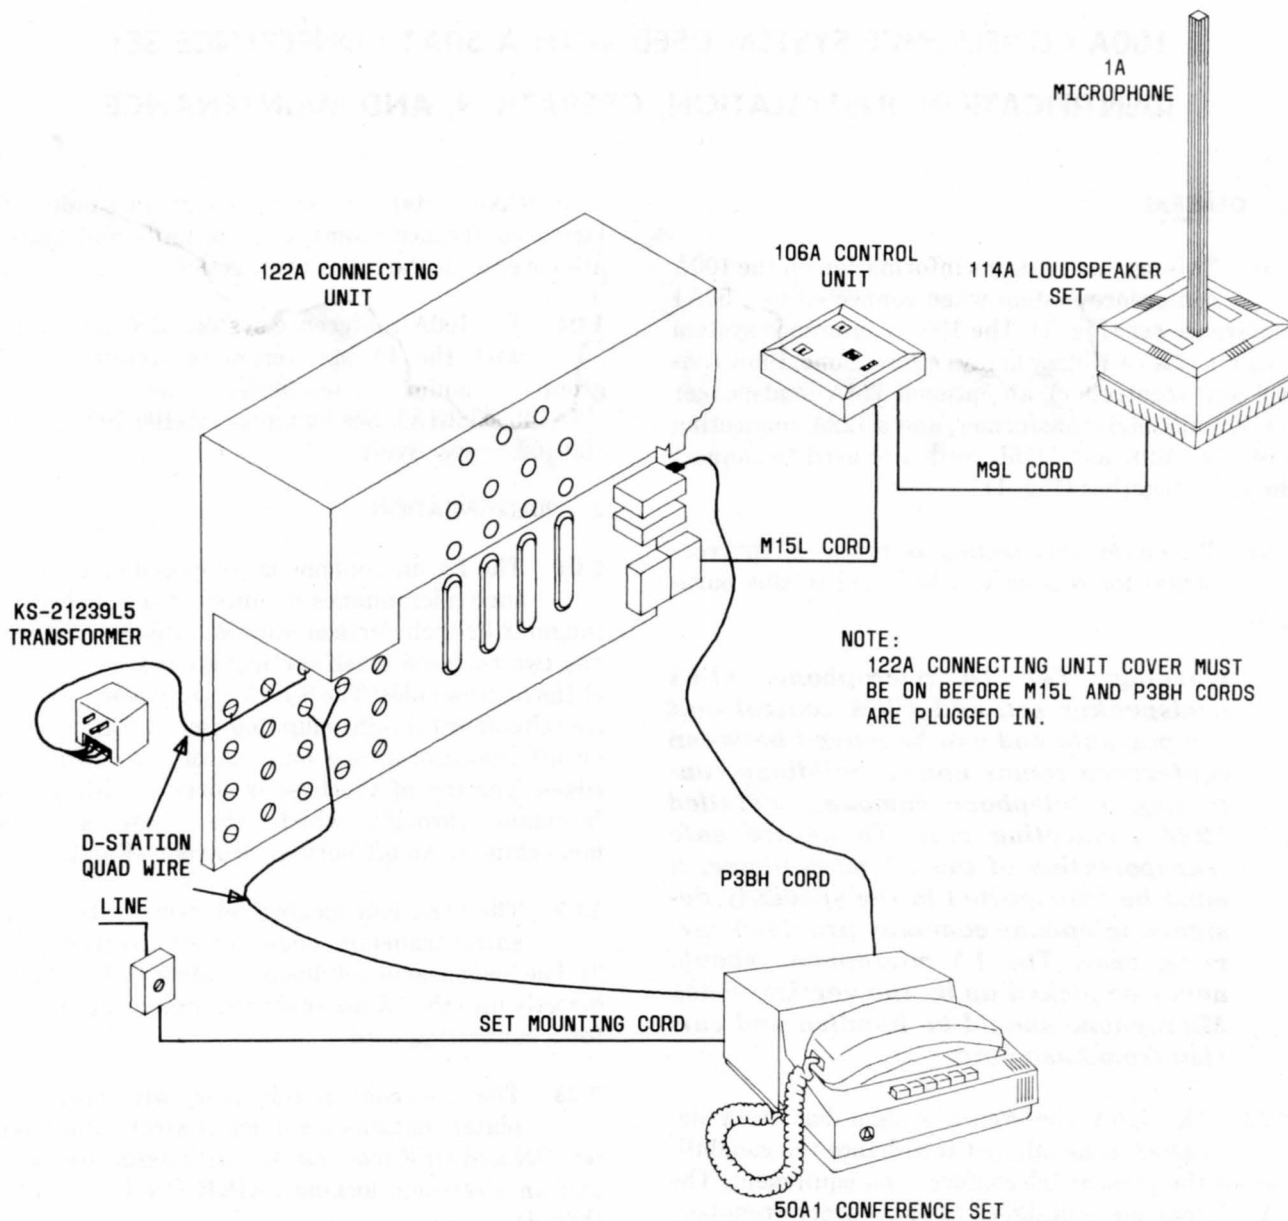

Fig. 1—100A Conference System Connected to a 50A1 Conference Set
1.01 This section contains information on the 100A conference system when connected to a 50A1 conference set (Fig. 1). The 100A conference system consists of a 1A (linear array) microphone, 106A control unit (controller), an optional 114A loudspeaker set, KS-21239L5 transformer, and a 122A connecting unit. The M9K and M15L cords are used to connect the units together (Fig. 1).